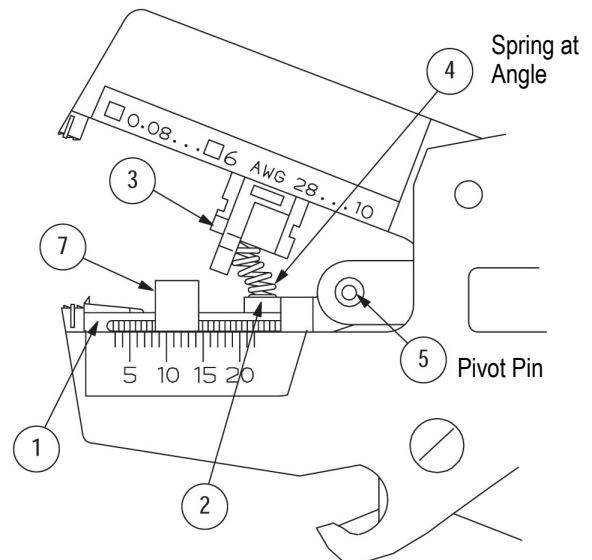

Figure 6
#### 5.2. Jaw Installation (Figure 6)
4. Insert the spring into the upper stripping jaw by bending it at an angle as shown in Figure 6.